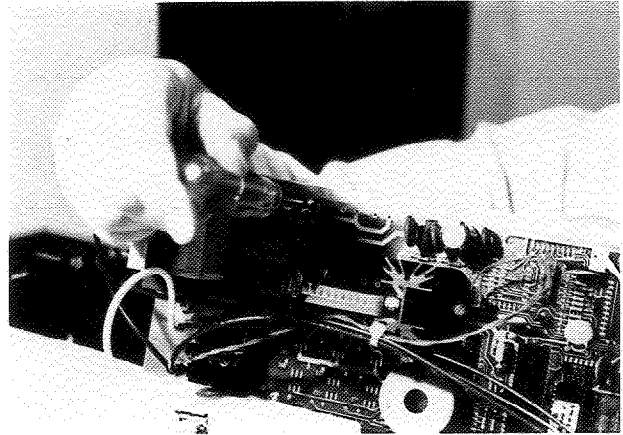

Figure 24
3. Remove 4 screws and spaces securing the circuit board to the cabinet. (See Figure 24)